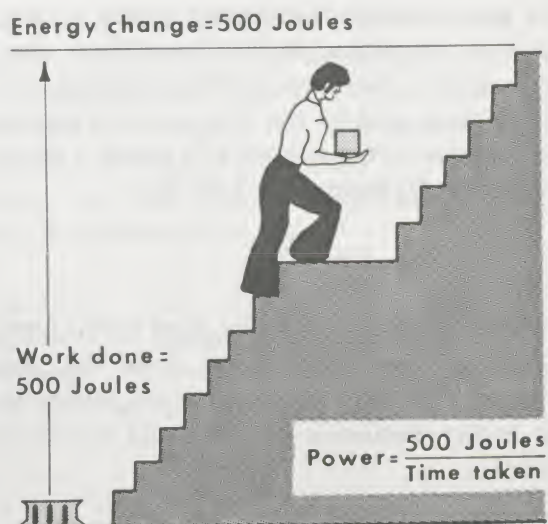

Figure 3.
Power is a measure of how fast work is done or energy is used up. Power is work done (or energy change) per unit time, and it is measured in *watts* (W). One watt is one joule per second (J/s). If the man in Figure 3 climbs the stairs in ten seconds, the power he puts into the block is 500 joules/10 seconds, or 50 watts. If he can do it in five seconds, the power is 100 watts, but the amount of work he does on the block is still *the same*, 500 joules.